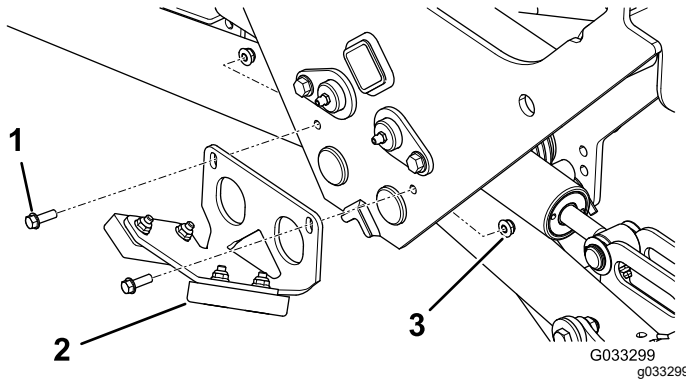

Figure 23
2. Install the rear bumper assembly as shown in Figure 23.